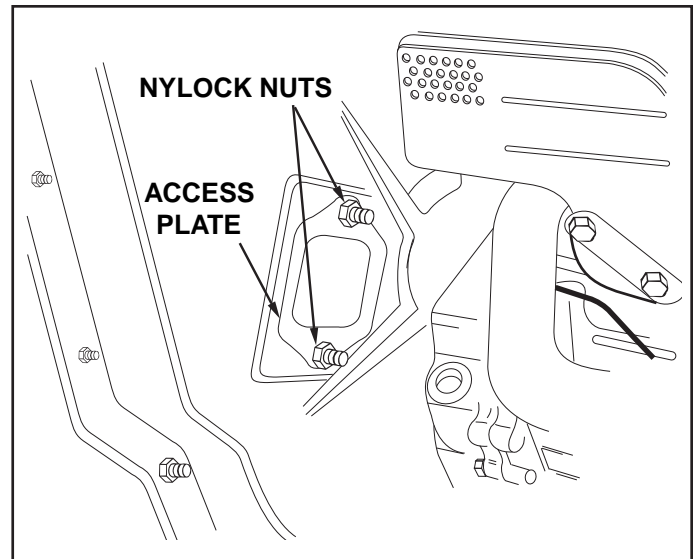

FIGURE 30
2. Remove the access plate by removing two hex lock nuts. See figure 30.